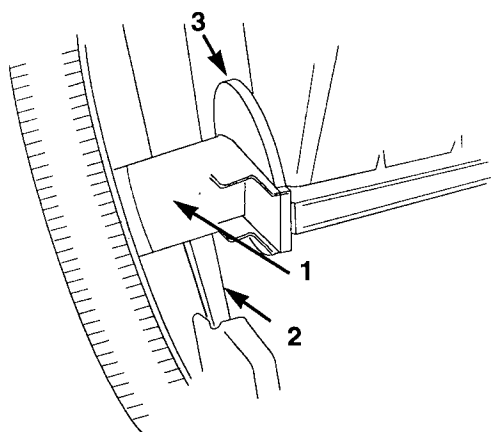

Figure 92
2. Rotate the axle supports so the thin part of its flange fits between the mower handles (Fig. 92). The flange of the axle support must be next to the hopper.